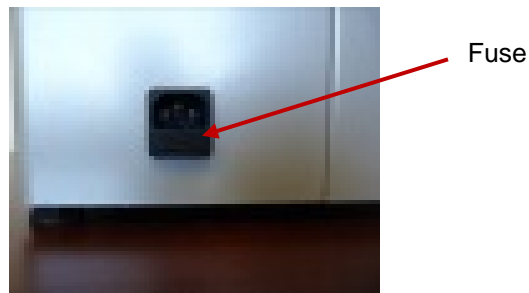

Figure 1
- b. Check the Fuse in the Power Inlet. (See Figure 1)